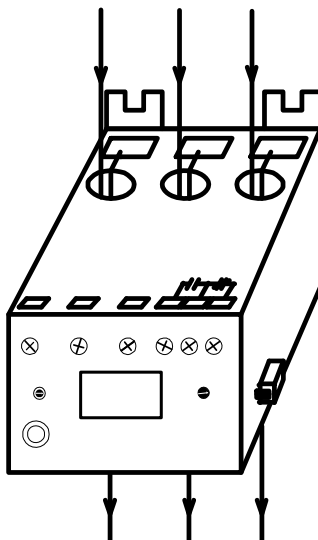

Figure 2: Looping Example for 1.0-2.0A, MULT = 2
b) For amperages less than 2.1 amps, loop the motor conductors according to Table 1. Figure 2 shows an example of the looping required for current ranging from 1.0-2.0 amps (MULT=2).